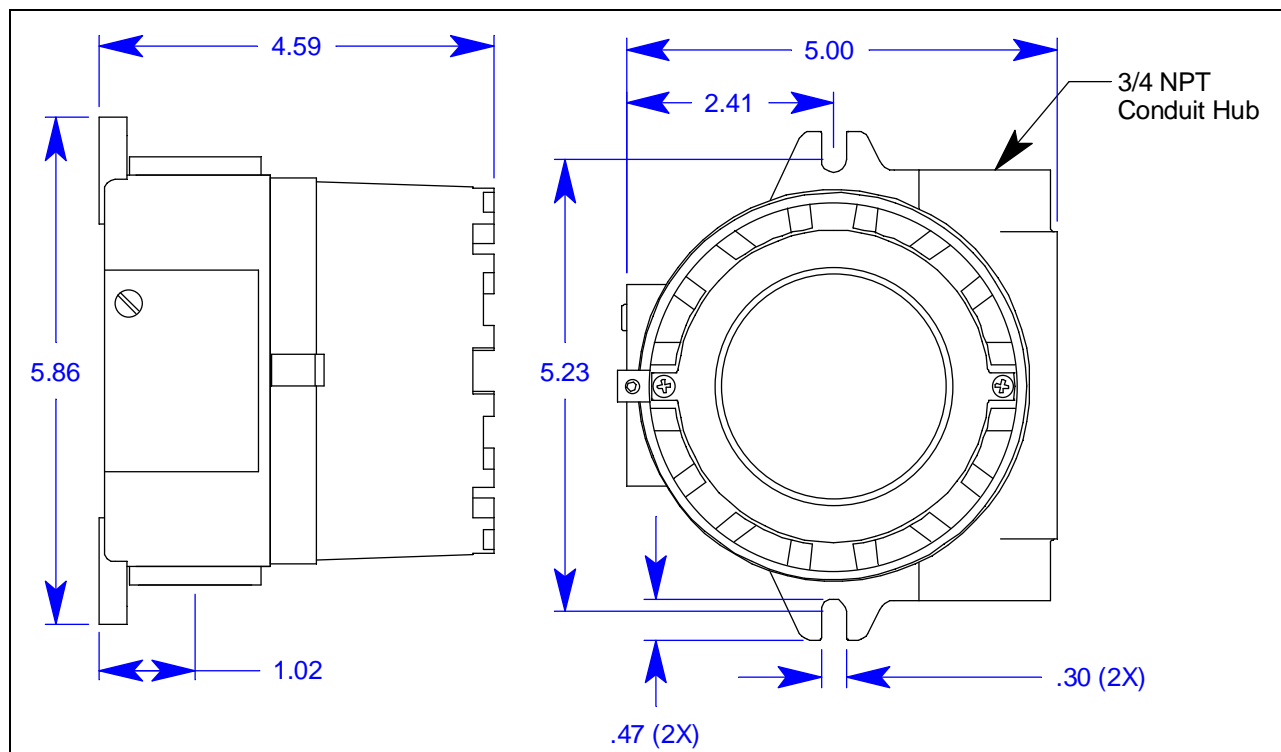
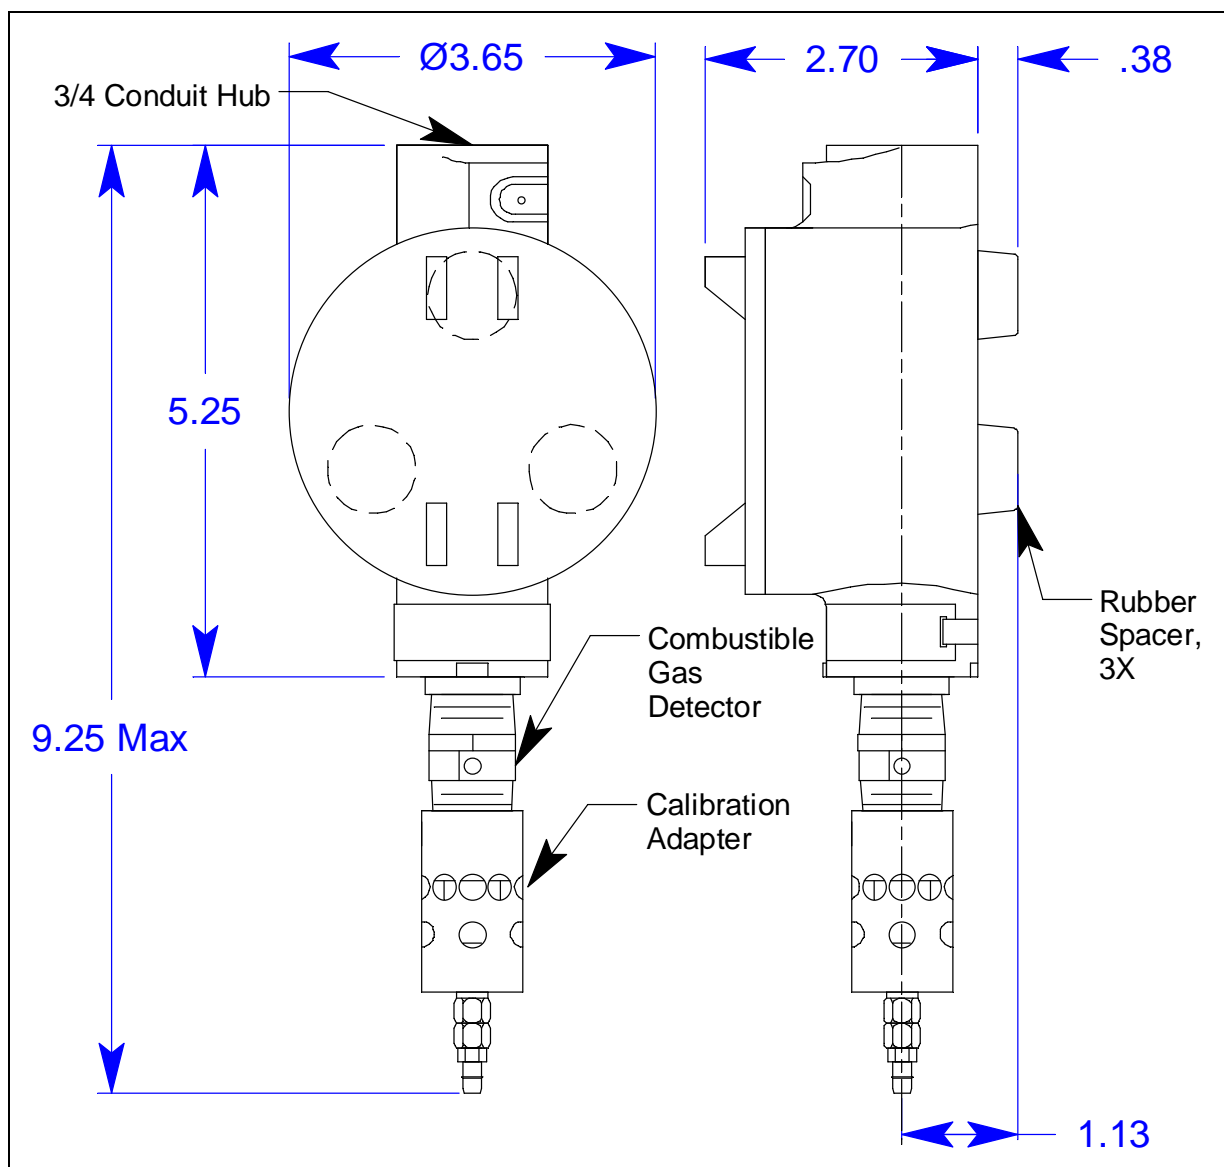

Figure 5: Outline & Mounting Dimensions, M2A Junction Box
Figure 6: Outline & Mounting Dimensions, Detector Junction Box
2. Use #10 screws through the M2A junction box's two mounting slots to secure the junction box to a vertical surface. Figure 5 shows the outline and mounting dimensions the M2A junction box. Figure 6 shows the outline and mounting dimensions for the detector junction box. Mount the detector junction box with the detector facing down as shown in Figure 6.